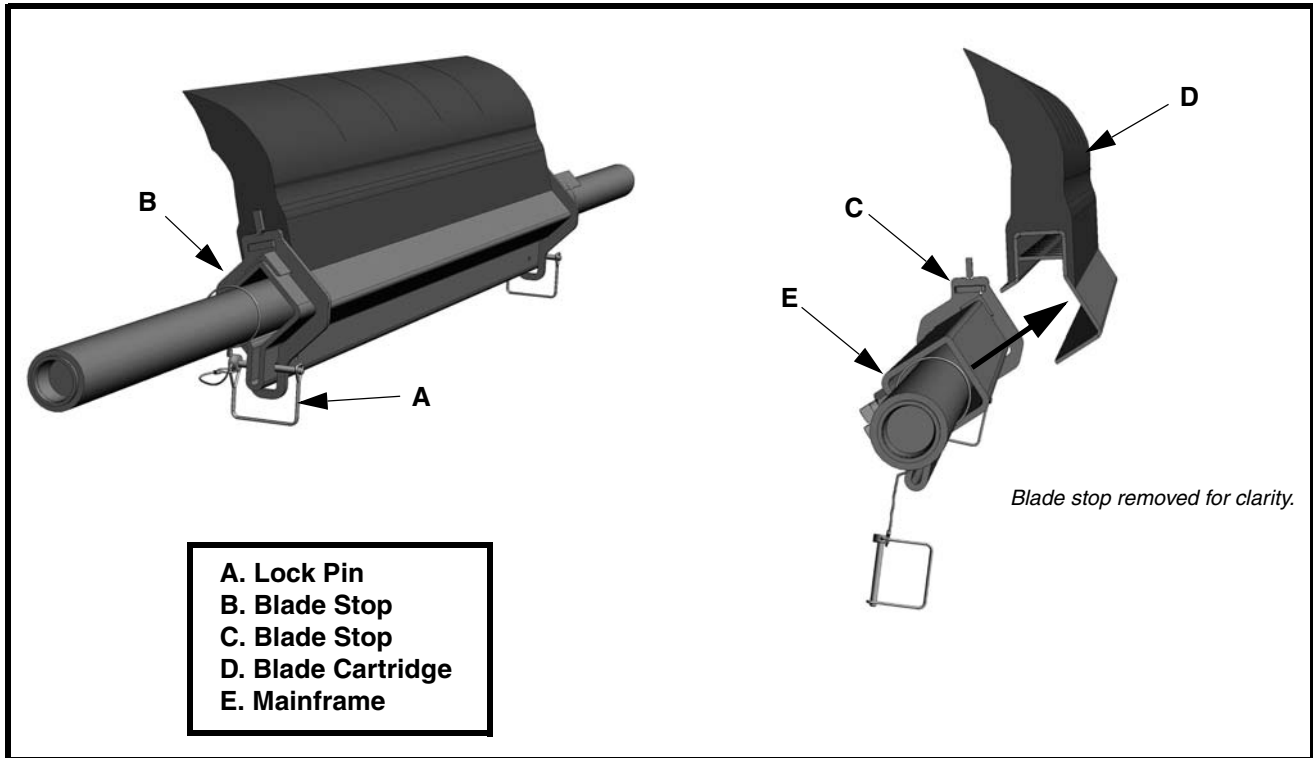

Figure 3. Removing and Installing Blade
1. See Figure 3. Position blade on mainframe with blade curve facing conveyor belt. Push far side end of blade into blade stop (C) until it locks.
2. Push blade cartridge (D) onto mainframe (E) until it is fully seated.
3. Install blade stop (B).
4. Insert lock pin (A) in mainframe.